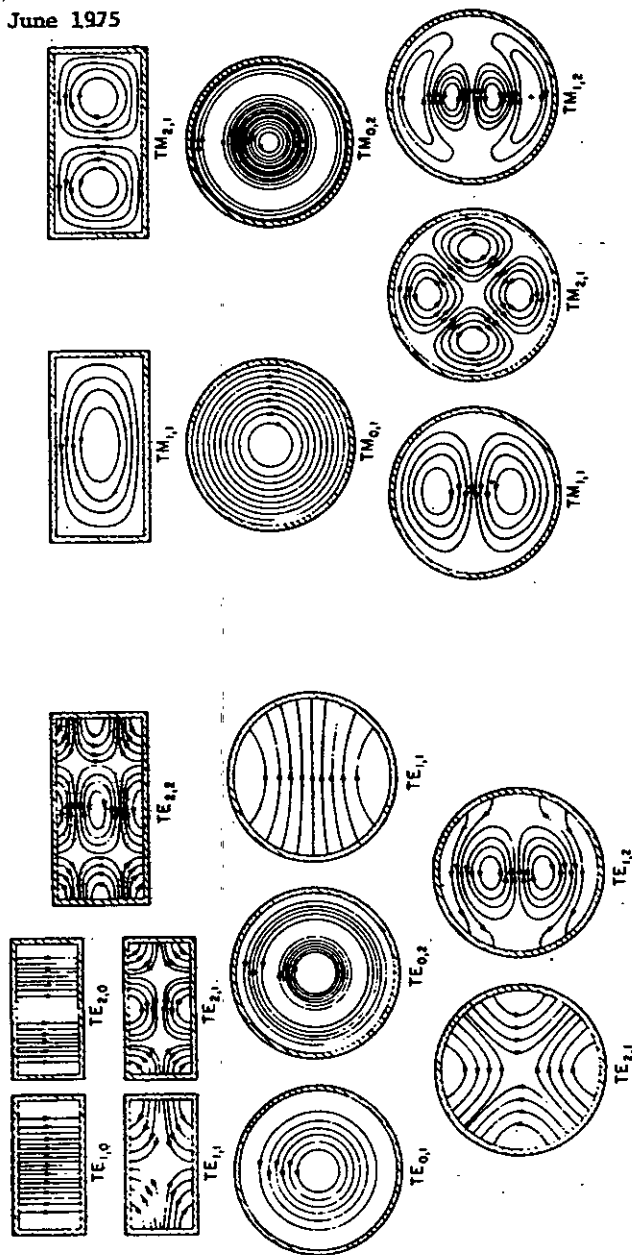

FIGURE 6.1. Cross-section view of the configuration of electric field for common TE modes in rectangular and circular waveguides.
6.1.1 Modes. Electromagnetic energy can propagate through a hollow metallic tube or waveguide with many possible configurations of electric and magnetic fields; each specific configuration is known as a "mode". The particular mode which is transmitted within a waveguide depends on the excitation employed, and on the size and shape of the waveguide cross section in relation to the wavelength or frequency of the wave. Modes are classified in reference to the field components in the direction of energy propagation. A mode is identified by two numerical subscripts ( $TE_{mn}$  or  $TM_{mn}$ ) that denote the number of half-wave field variations in the width (a) and height (b) dimensions of the rectangular waveguide. For circular waveguides, the cylindrical coordinates are used where "m" is the variation in the  $\theta$  direction and "n" in the  $\rho$  direction. For elliptical cross section waveguides, elliptic coordinates are employed with the subscript preceding referring to odd (o) or even (e) and the "m" and "n" referring to the number of half-wave field variations in the elliptical and hyperbolic directions. For most applications, these dimensions are chosen so that only the dominant mode, that is, lowest frequency or longest wavelength, will propagate. At any abrupt change in the waveguide cross section or obstacle, evanescent (higher order) modes may be excited but they are attenuated very rapidly in the dominant mode guide at a short distance from the discontinuity. A cross-section view of the more popular modes is illustrated in figures 6.1, 6.2, and 6.3. In the transverse plane, the lines of magnetic flux are always orthogonal to those of the electric field.